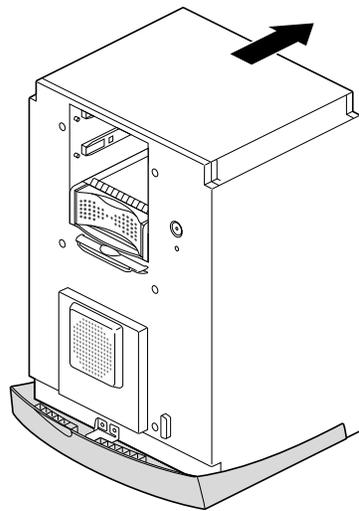

Figure 7-34 Sliding the Chassis Backward
3. While pressing down on the tab, slide the chassis back about 1-1/2 inches, until it stops, as shown in Figure 7-34.